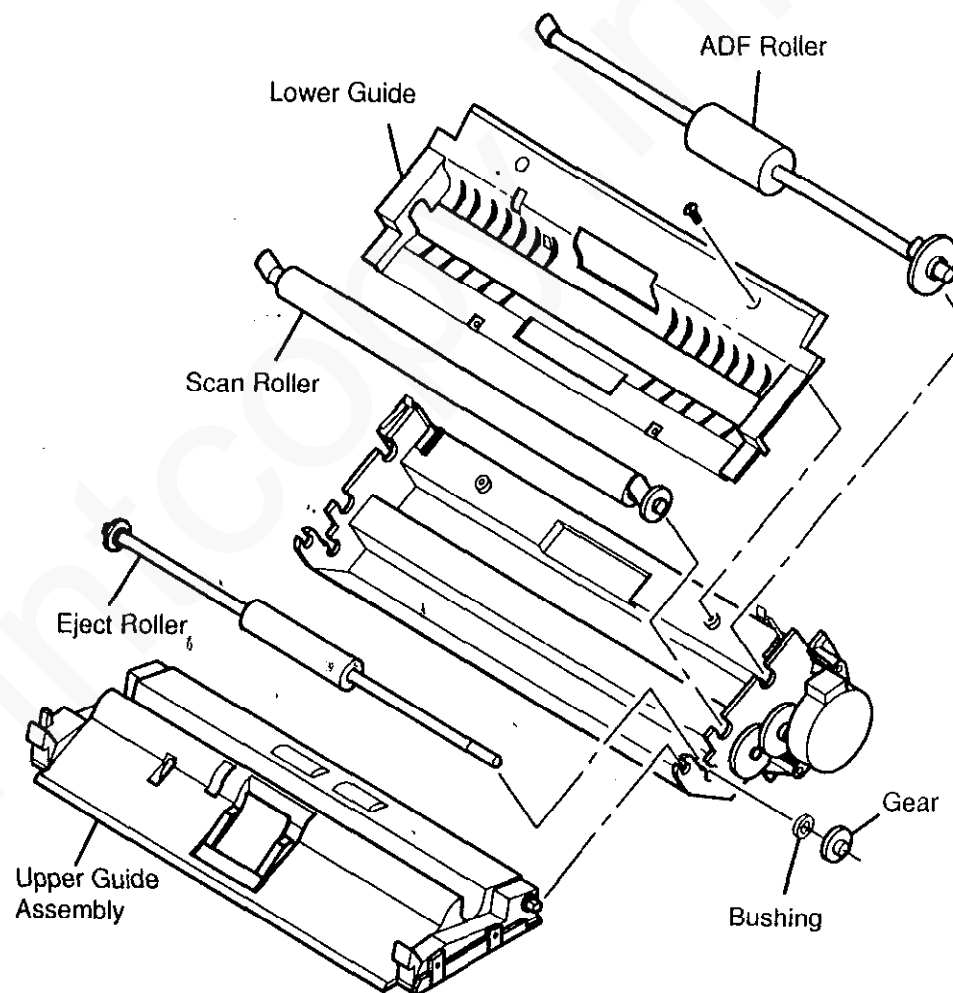

Figure 1 Removing the ADF, Scan and Eject Rollers
3. Remove the Eject Roller (Figure 1).